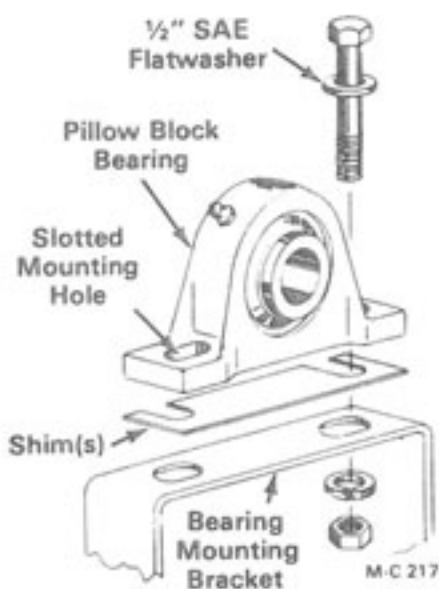

Figure 31
- A. Pulleys are out of alignment vertically. Raise or lower the output shaft and bearing as required by adding or removing shims under the bearing, see Figure 31.
- B. Pulleys are out of alignment horizontally. Loosen the bearing mounting capscrews and move the output shaft and bearing forward or back as required. The bearing mounting holes are slotted for this purpose, see Figure 31.